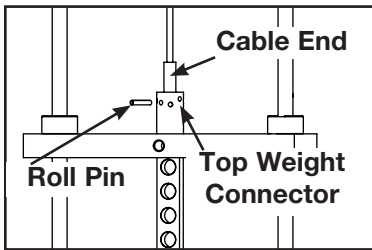

Figure 5
- A. Using a punch carefully remove roll pin from top weight connector. See Figure 5.
- B. Carefully disconnect cable end from top weight connector. See Figure 5.